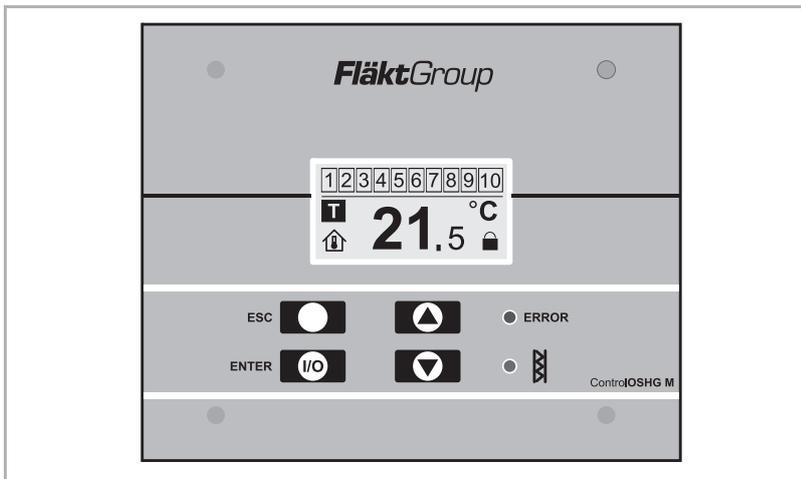

Fig. 90: Control panel OSHG 0.EC0M (OSHG 0.000M)
• Room temperature control (see Fig. 90):
- in the recirculating air unit (U): the gas burner and the fan of the unit
- in the mixed air unit (U): the gas burner, while the fan keeps running